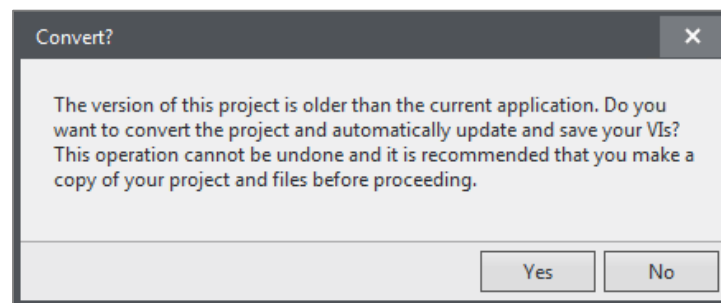

Figure 50: Convert Dialog
3. Click **Yes** to convert as shown in Figure 50.